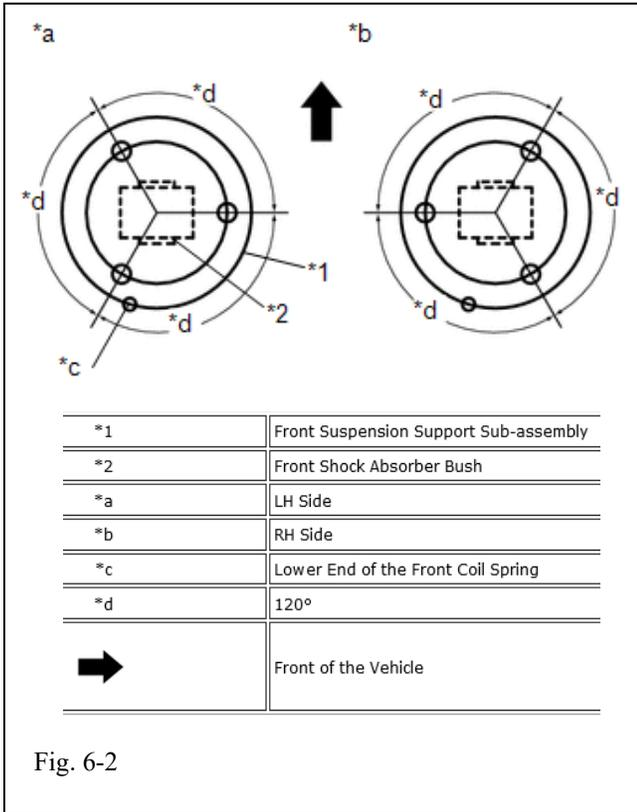

Fig. 6-2
- (f) Align the front suspension support sub-assembly and the front shock absorber bush. (Fig. 6-2)